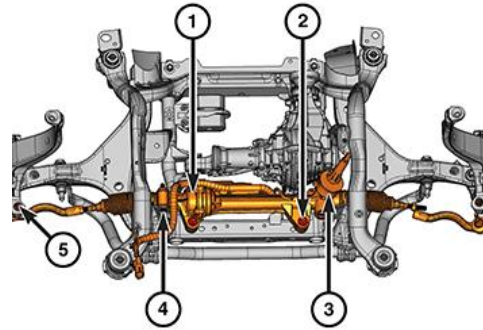

Figure 24 – Steering Gear Bolts
44. Remove the two steering gear bolts (2) (Figure 24).
45. Remove the one steering gear bolt (4) (Figure 24).
46. Remove the steering gear (3) (Figure 24).
2. Position the **NEW** steering gear (3) to the crossmember cradle (Figure 24).
3. Install the two steering gear bolts (2) and tighten to 250N·m (184 ft. lbs.).
5. Install the two outer tie rod end nuts (5) and tighten them to 54N·m + 110° (40 ft. lbs. + 110°) (Figure 24).
25. Install the two outer tie rod end nuts (5) and tighten them to 54Nm + 110° (40ft. lbs. +110°) (Figure 24).